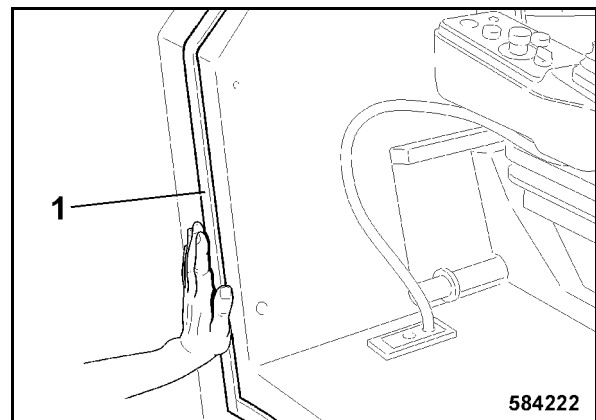

Fig. 204
- Stick the supplied sealing tape 1 (Fig. 204) along the edge of the operator's stand.